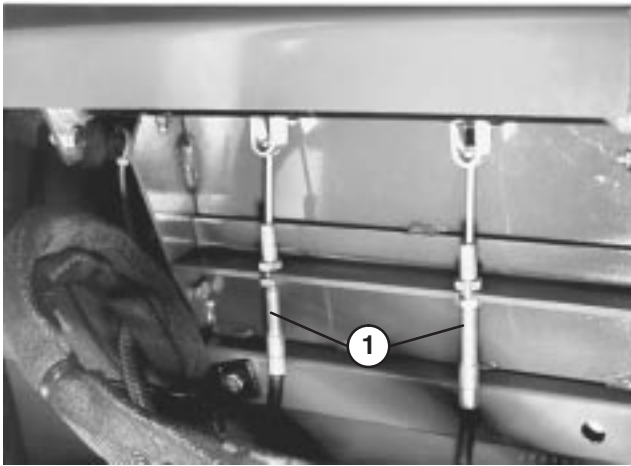

Figure 68
2. To reduce free travel of brake pedals, tighten the brakes by loosening the front nut on threaded end of brake cable (Fig. 68). Then tighten rear nut to move cable backward until brake pedals have 1/2 to 1 inch of free travel. Tighten front nuts after brakes are adjusted correctly.